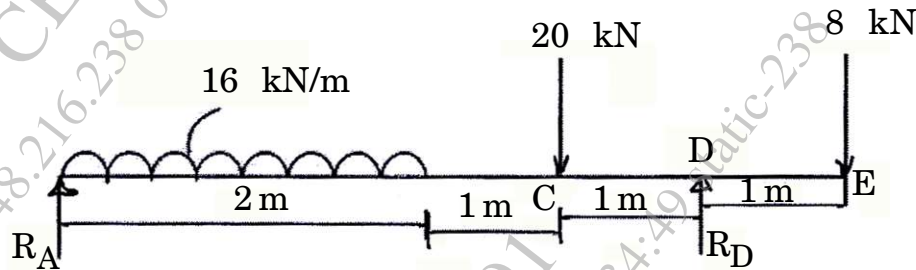

Fig. 6.1
6. (a) An overhang beam ABCDE is supported at A and D.  $DE = 1$  m overhang  $BC = CD = 1$  m,  $AB = 2$  m. Position AB is subjected to UDL  $16$  kN/m. At C a point load of  $20$  kN is acting. At E a point load  $8$  kN is acting. Draw SFD and BMD. Locate point of contraflexure. Calculate maximum Bending moment. Refer figure 6.1. [7]